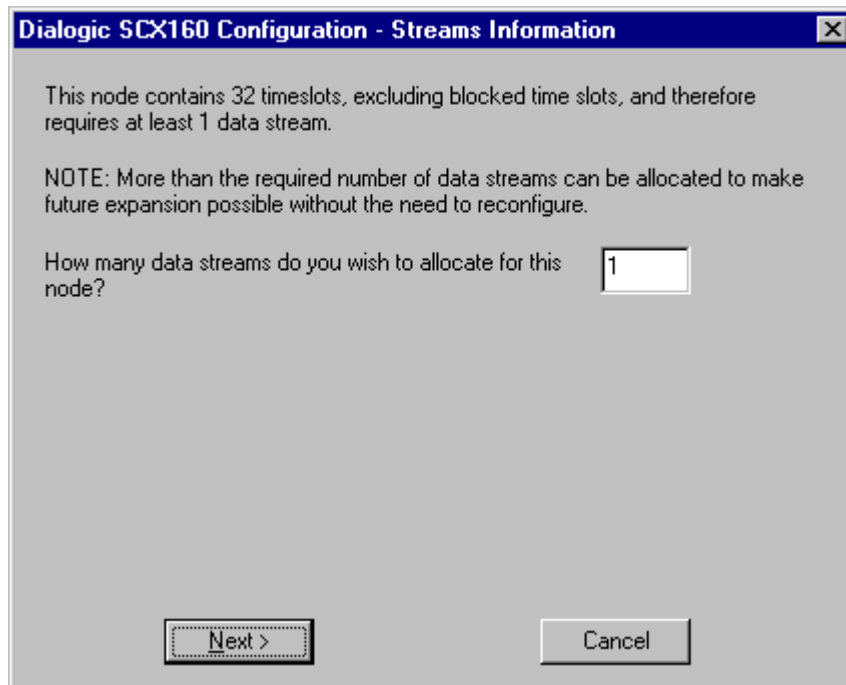

Figure 51. Streams Information Window (Blocked Configuration)
20. In *Figure 51. Streams Information Window (Blocked Configuration)*, the number of data streams required to support the time slots used by the Non-Blocked resources installed is automatically calculated. More data streams than are required for the currently installed resources can be entered to reserve data streams for future expansion (the addition of new resources). Reserving additional data streams will enable future expansion without reconfiguring the system.